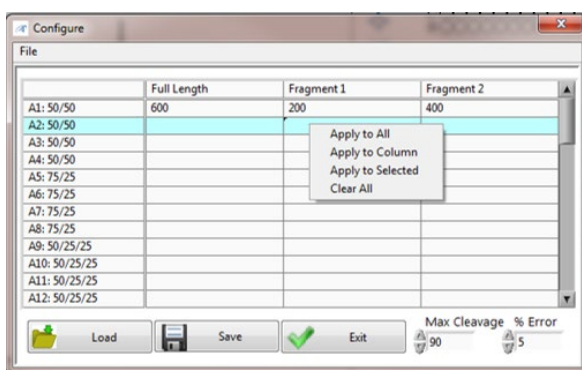
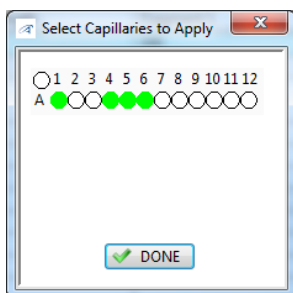

Figure B3. Setting the expected **Full Length** PCR and cleavage fragment sizes (**Fragment 1** and **Fragment 2**; in order of increasing size) in the **Configure** screen.
Figure B4. Apply to Selected pop up dialog, to select additional wells to apply size information from a specific well.
- 4 In the **Configure** screen enter the expected PCR fragment size (**Full Length**) and the expected cleavage fragment sizes (**Fragment 1** and **Fragment 2**; enter in order of increasing size) for each sample well (Figure B3). Right-click over a cell and select **Apply to Column** to copy the entered value in that cell to the entire column. To apply an entire row of entered values to all rows, right click over the row with the desired values entered and select **Apply to All**. To apply to a selected set of wells, right click over the row with the desired values entered and select **Apply to Selected**, mark the respective wells to copy the values to in the pop up dialog box (Figure B4), and click **Done**. To clear all entered values, right click and select **Clear All**.
- Results calculated by the CRISPR SCL plugin can be output as a PDF report by selecting **Create PDF**. Options are provided to generate a PDF **Configuration Table**, **Capillary Table**, and/or **Capillary Graph** for all or for selected samples in the report (Figure B6). When selecting the **PDF** button to print a report, a capillary selection pop up dialog will appear, similar to Figure B4, to select the respective sample wells to include in the PDF report.